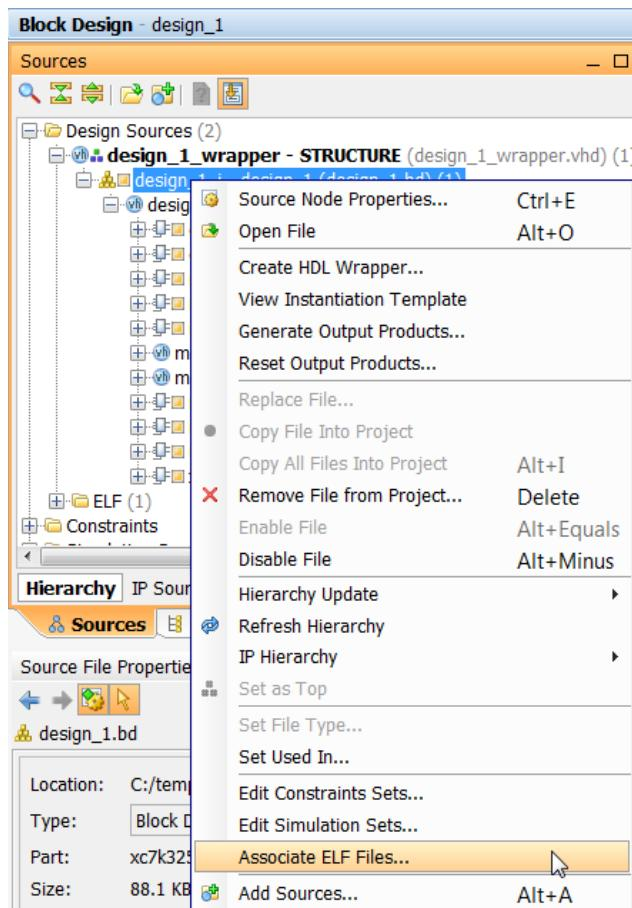

Figure 4-25: Associate ELF Files Command
7. In the Sources window, select and right-click the block design and select **Associate ELF Files** as shown in Figure 4-25.